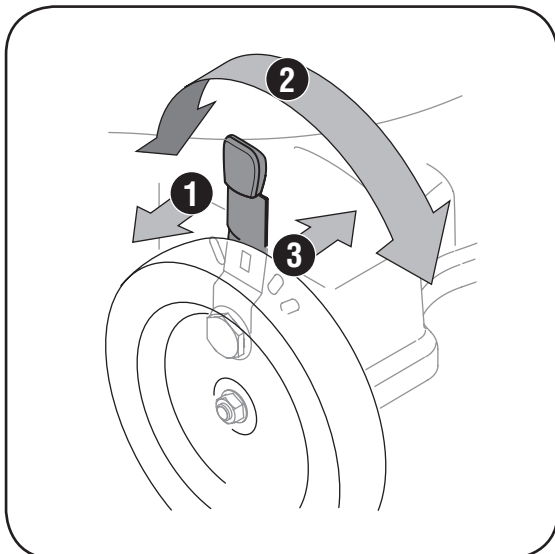

Figure 3-7
2. Slide lever to desired position for a change in cutting height. See Figure 3-7.